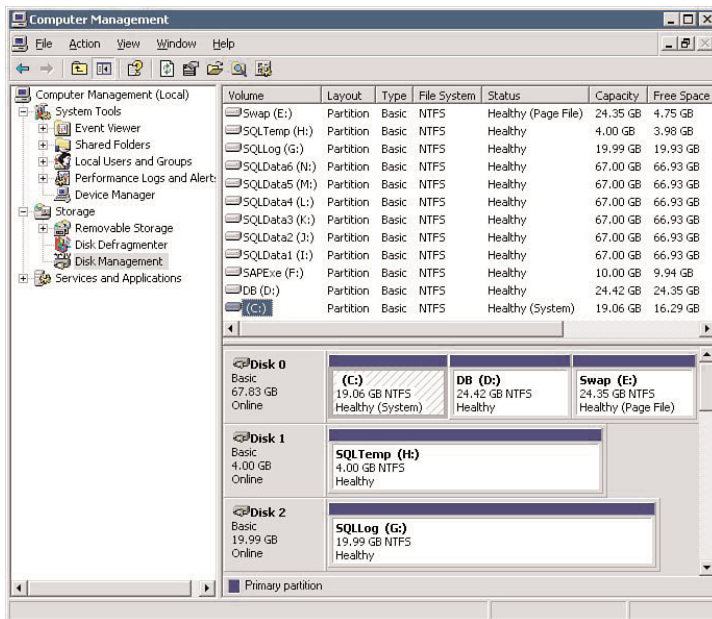

FIGURE 23.8 Verify the volume names, drive letter assignments, and file system types in the Disk Management Microsoft Management Console (MMC) plug-in.
- ▶ Ensure that all drives were indeed formatted for NTFS (right-click My Computer, click Manage, and then select Disk Management), as shown in Figure 23.8.